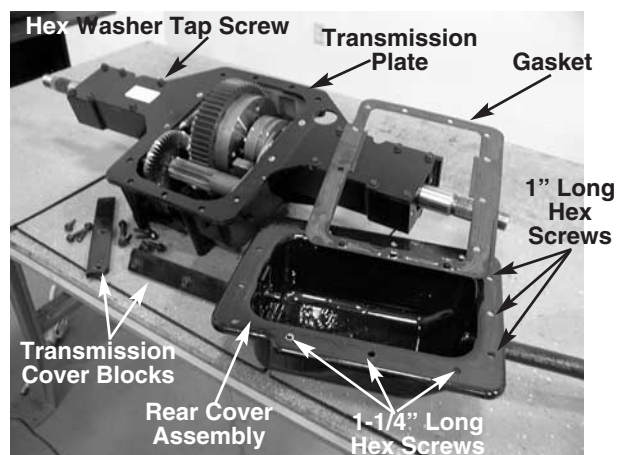

FIGURE 10.
23. Remove all the hex washer tapp screws from the rear cover assembly using a 3/8 socket. See figure 10.
25. Inspect all the gears in the differential for uneven wear or damaged teeth. See figure 10.